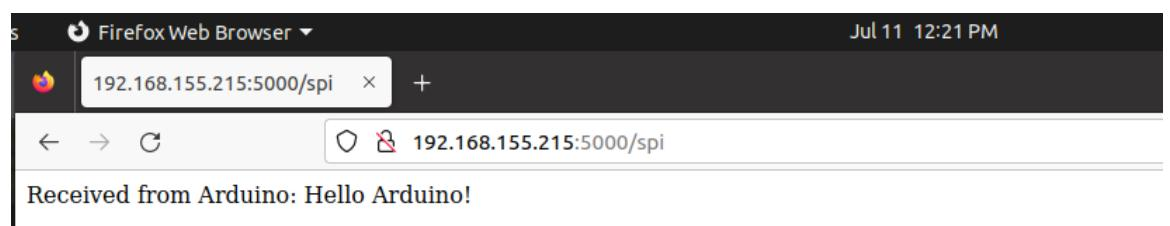

Figure 1.6.7.1: Website
1.6.7. In the website loaded by the IP address of system Vaman's is to establish a Wi-Fi connection, exchange data with a server using the SPI protocol, handle received data, and communicate with the server using HTTP requests as shown in Fig. 1.6.7.1